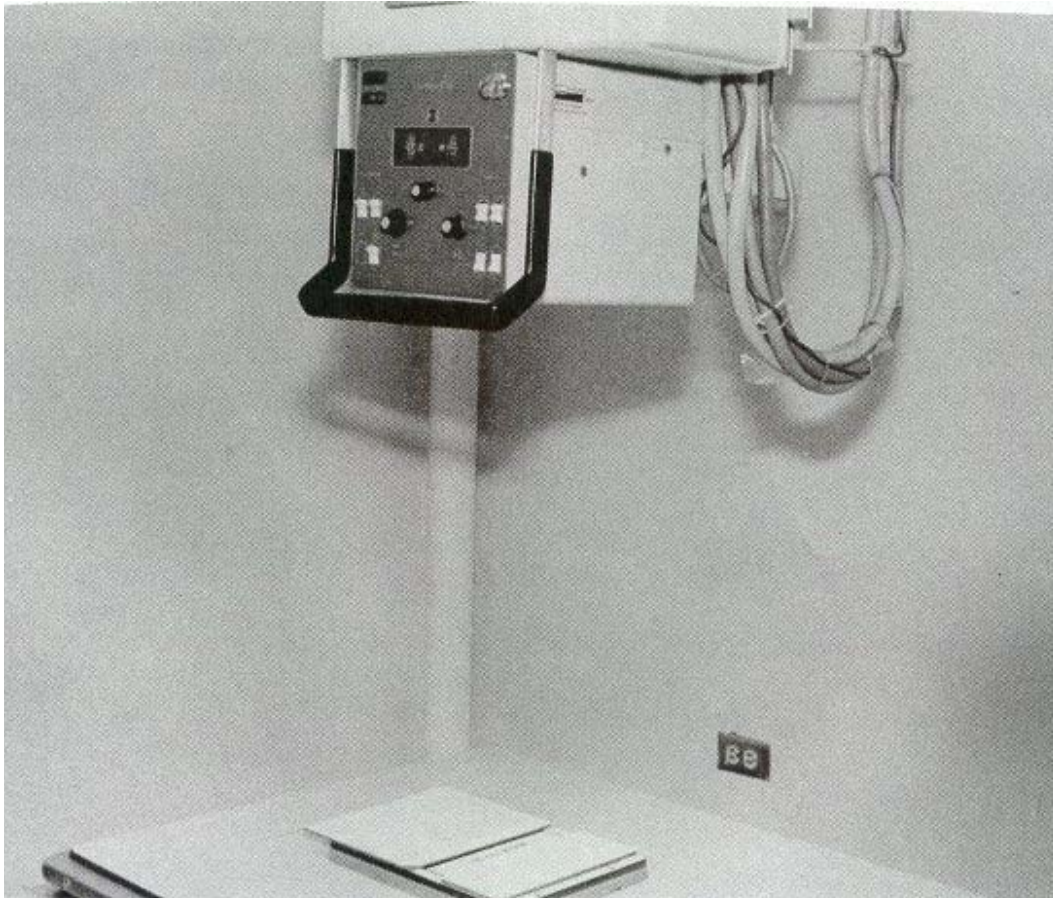

Figure 4-3. Testing 80 kVp region.
- (1) Milliampere (mA) at which kVp values are being checked.
- (2) 60 kVp and time with mA to produce 150 mAs.
- i. Collimate the x-ray beam to the 80 kVp region (see figure 4-3).